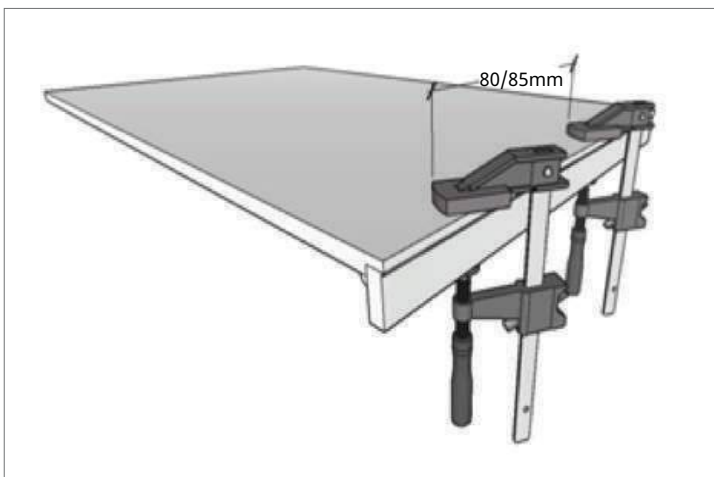

Fig.6
- Apply a sufficient amount of adhesive and clamp the edge in position with screw clamps to set every 70/80mm (Fig.6).